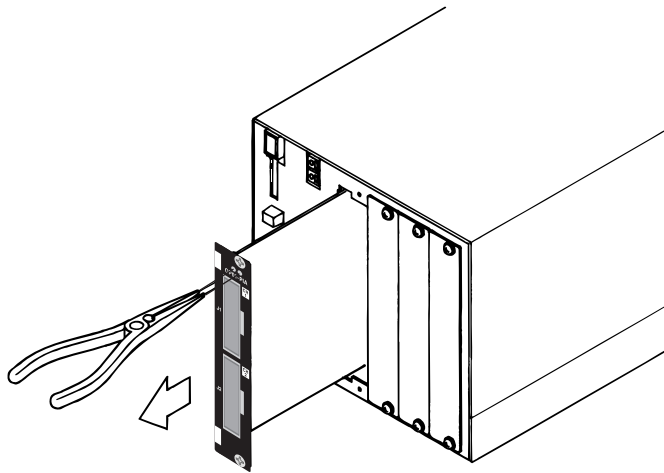

Fig. 8-3 Removal
3. As shown in Fig. 8-3, insert long-nose pliers into the drawing hole and slowly draw out the control board.